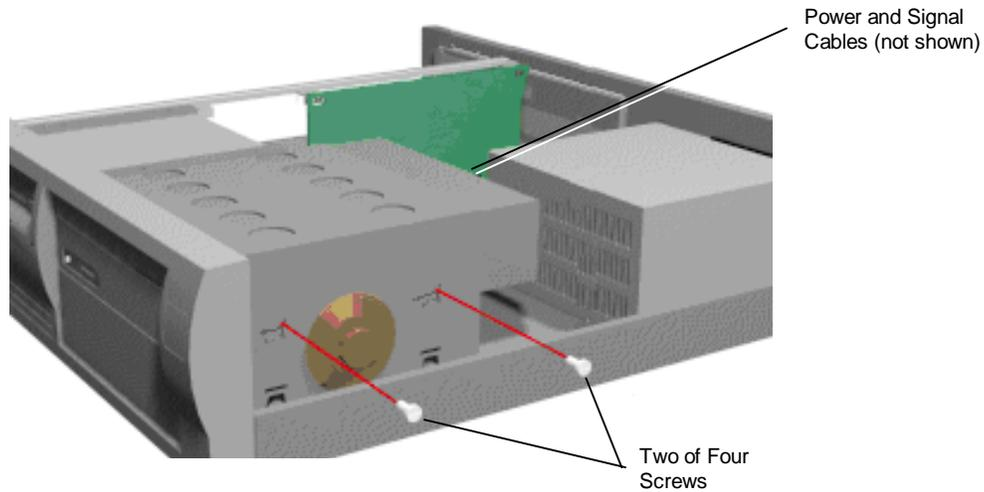

Figure 5-12 5 1/4-Inch Device Screws
Remove an 5 1/4-inch device from the 5 1/4-inch device cage per Figure 5-12, and the following steps.
2. Unplug all signal and power cables from the device(s) in the 5 1/4-inch device cage (see Figure 5-12).
3. Remove the four device screws; two from each side of the 5 1/4-inch device cage (see Figure 5-12).